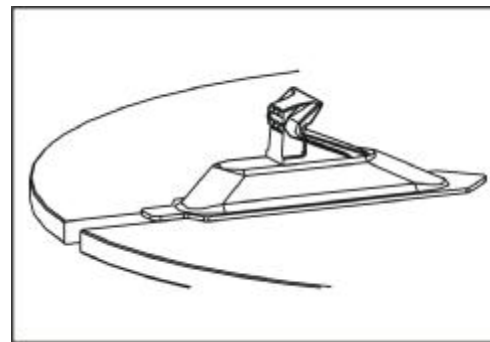

Fig.15
- I The position of the jaw (Fig.15) on the turntable is controlled by the movement of the piston rod, which in turn is controlled by pedal H. There are three levels for pedal H.